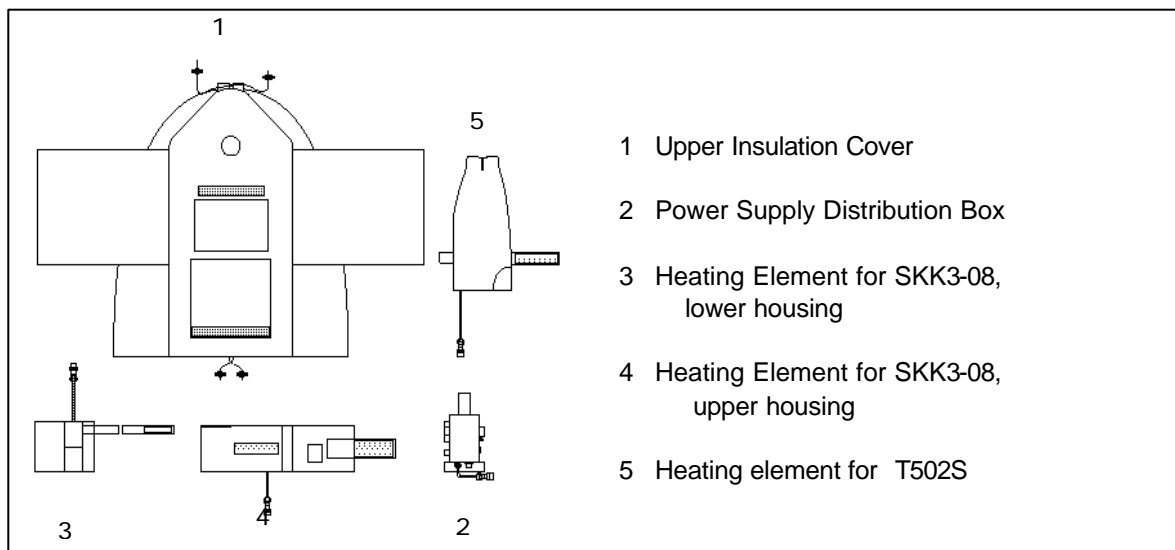
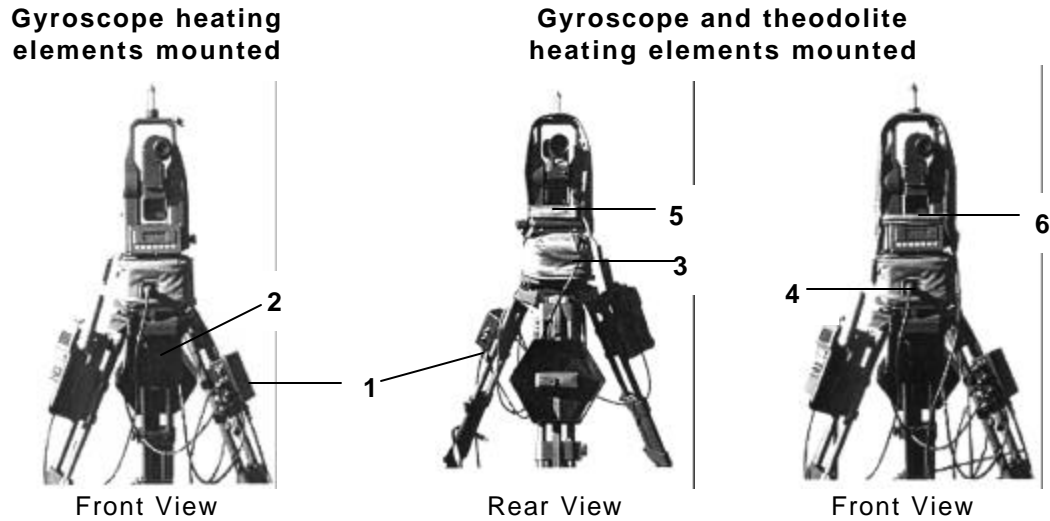

Figure 2.8. SVP250 Winterization Kit Components
Figure 2-9. Power Supply Mounting
- a. Attach SEV22-1 power adapter to the back of the gyroscope to power the system. Do not use the SEB42-1 battery if the external temperature is below the minimum operating range for the battery. Mount the power supply distribution box (1) on a tripod leg.
- b. Mount the heating element for SKK3-08 gyroscope lower housing (Figure 2-8 item 3) over the lower housing (2) as shown in figure 2-9. Fasten the velcro tab on the mounting band to secure the heating element in place.
- c. Mount the heating element for the SKK3-08 gyroscope upper housing (Figure 2-8 item 4) by placing the rear mounting band over the power adapter and cable (3) and securing with the velcro closure. Wrap the heating element around both sides of the gyroscope with the opening over the PLGR data port on the face of the gyroscope (4) as shown in Figure 2-9. Secure the in place with the velcro closure.
- d. Mount the heating element for the T502S theodolite (Figure 2-8 item 5) by first placing the target rod and connector located on the operating handle of the theodolite through the hole provided in the center of the heating element. The connecting band on the back side of the element should be positioned on the back side of the theodolite (5) as shown in Figure 2-9. Secure the mounting band (6) with velcro closure.